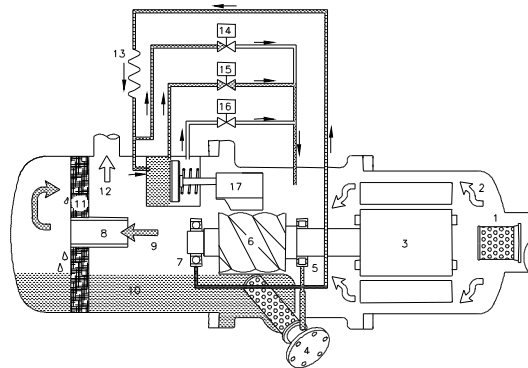

Fig 2.2 4-Step capacity control system
The RC series screw compressors are equipped with either 3-step/4-step capacity control system or continuous (stepless) capacity control system. Both of the capacity control systems are consist of a slide valve, piston rod, cylinder, piston and piston rings. The slide valve and the piston are connected by a piston rod. The principle of operation is using the oil pressure to drive the piston in the cylinder. See Fig 2.2 (next page), the lubrication oil flows from the oil sump through the oil filter cartridge and capillary then fills into the piston cylinder due to the positive oil pressure bigger than the right side of spring force plus the high pressure gas. The positive pressure differential causes the piston to moved toward the right side in the cylinder. When the slide valve moves toward the right side, the effective compression volume in the compression chamber increases. This means the displacement of refrigerant gas also increases as a result, the refrigeration capacity also increases. However, when any of the step solenoid valve (for 3-step/4-step capacity control system) is energized, the high pressure oil in the piston cylinder bypasses to the suction port causing the piston and the slide valve to moved toward the left slide, then some of the refrigerant gas by pass from the compression chamber back to the suction end. As a result, the refrigeration capacity decreases because of the reduction of displacement of refrigerant gas flowing in the system.
2.2.1 4-step capacity control system (See FIG 2.2)